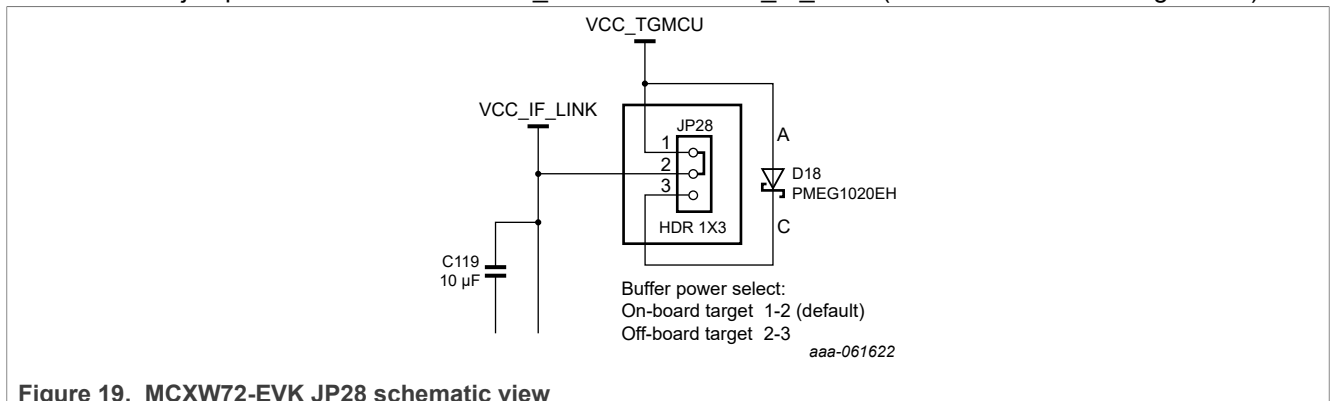

Figure 19. MCXW72-EVK JP28 schematic view
8. Remove the JP28 jumper and start the application. Refer to Figure 19 for jumper schematic view.